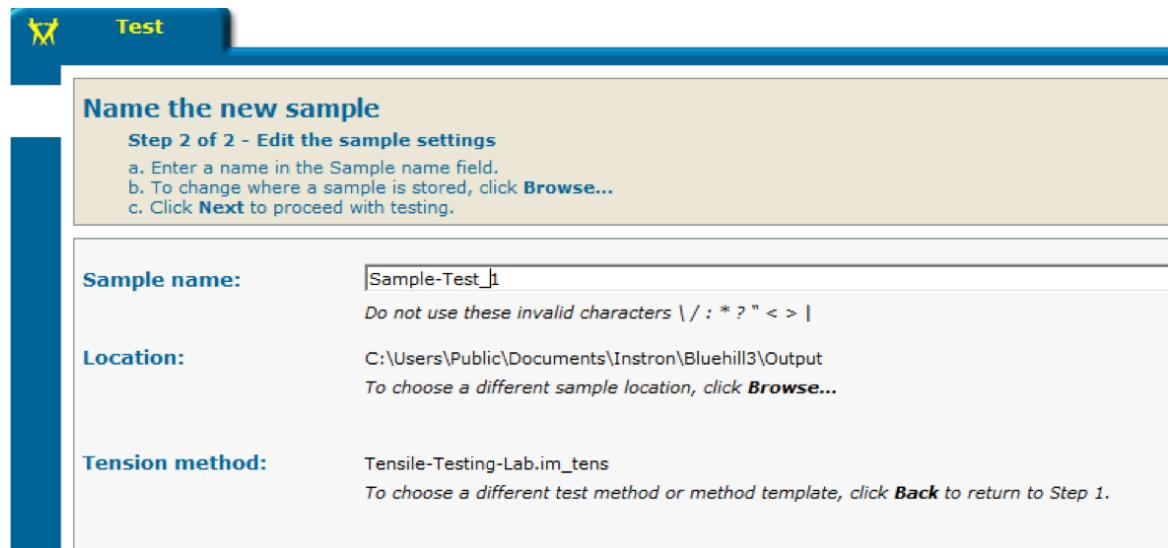

Fig. 3.4.3. Snapshot of the sample-name input page.
- iii. For Name the new sample, type in a **name** for the sample, and click **Next** (Fig. 3.4.3)